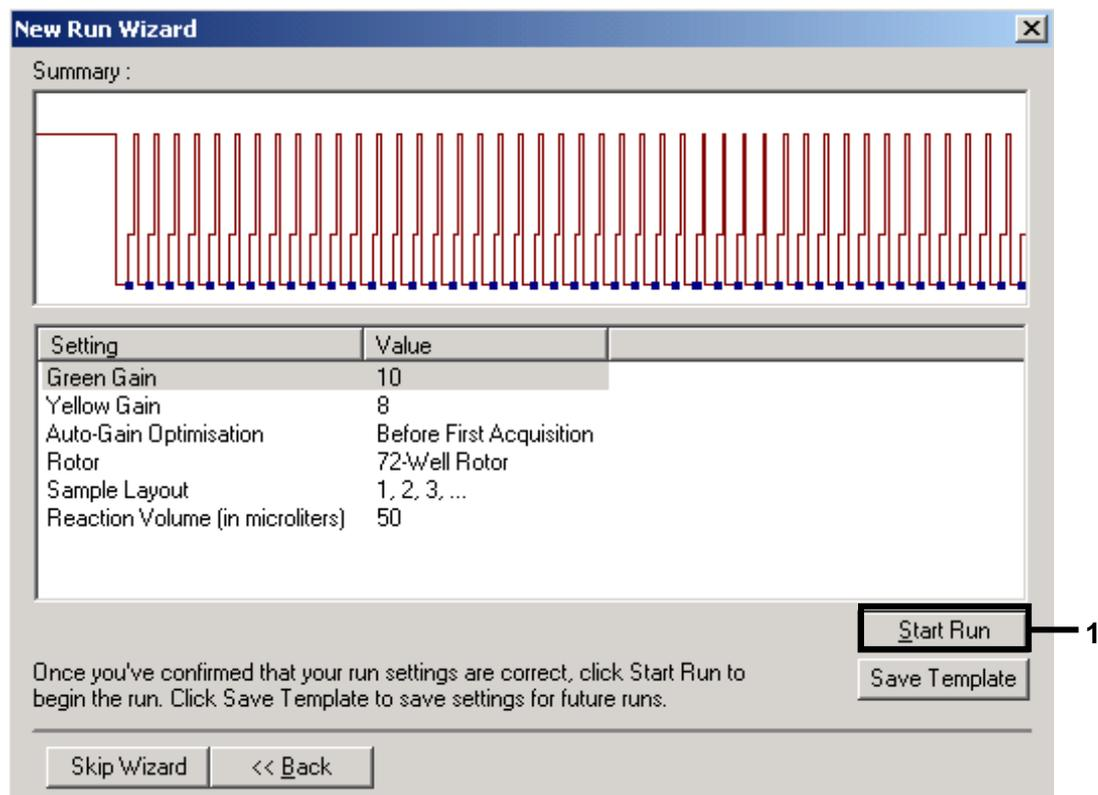
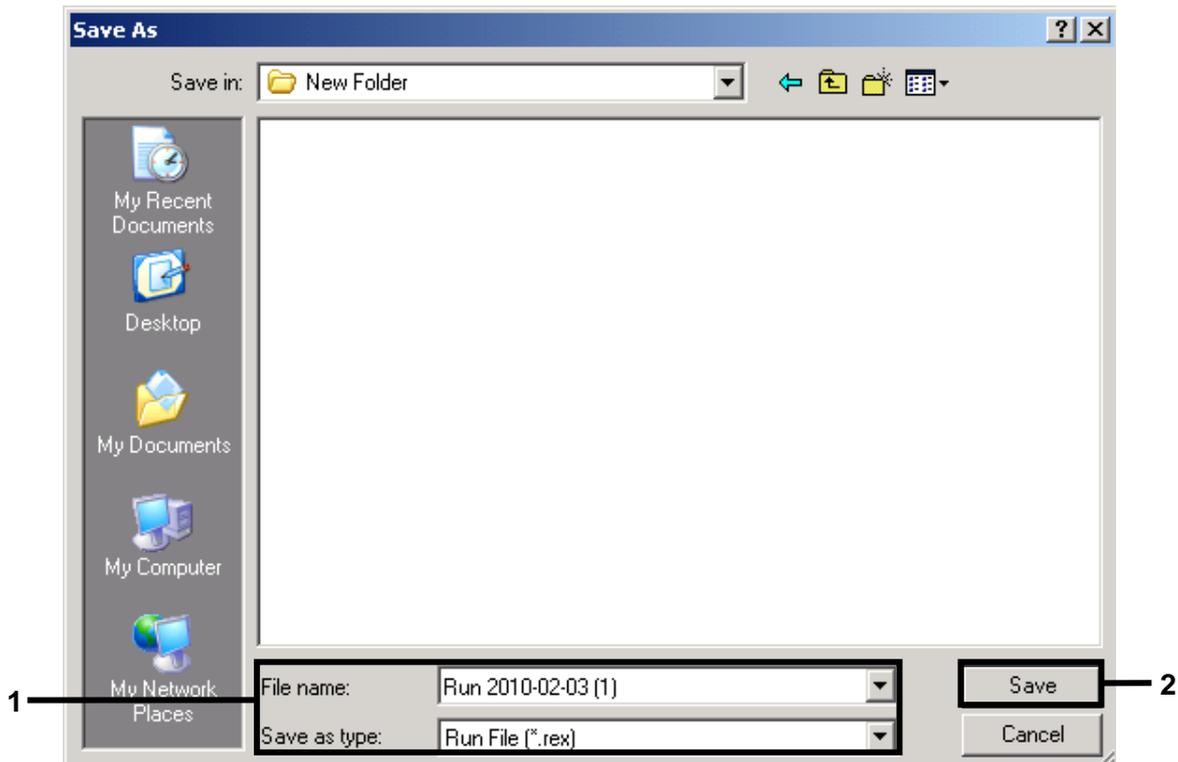

Figure 8. Starting the run. Note that, on the Rotor-Gene 3000, the software will define the fluorescence dyes as "FAM/Sybr" and "JOE".
Figure 9. Naming and saving the run.
Starting the run	Figures 8, 9
9. The gain values determined by the channel calibration are saved automatically and are listed in the last menu window of the programming procedure (Figure 8). Click "Start Run". A dialog box will appear for you to name the run and store it (Figure 9).